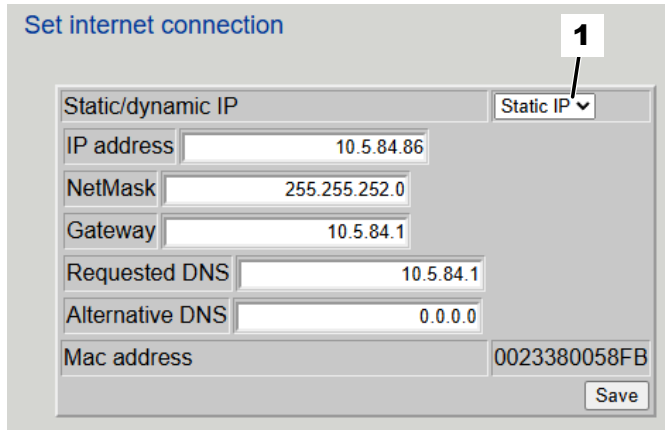

Fig. 40: Setting a dynamic IP address
2. ▶ Select 'DHCP' from the drop-down list ( Fig. 40 /1).